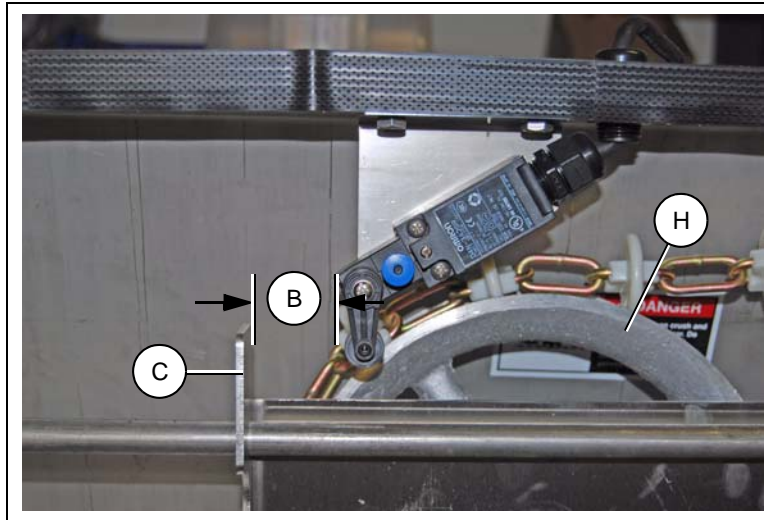
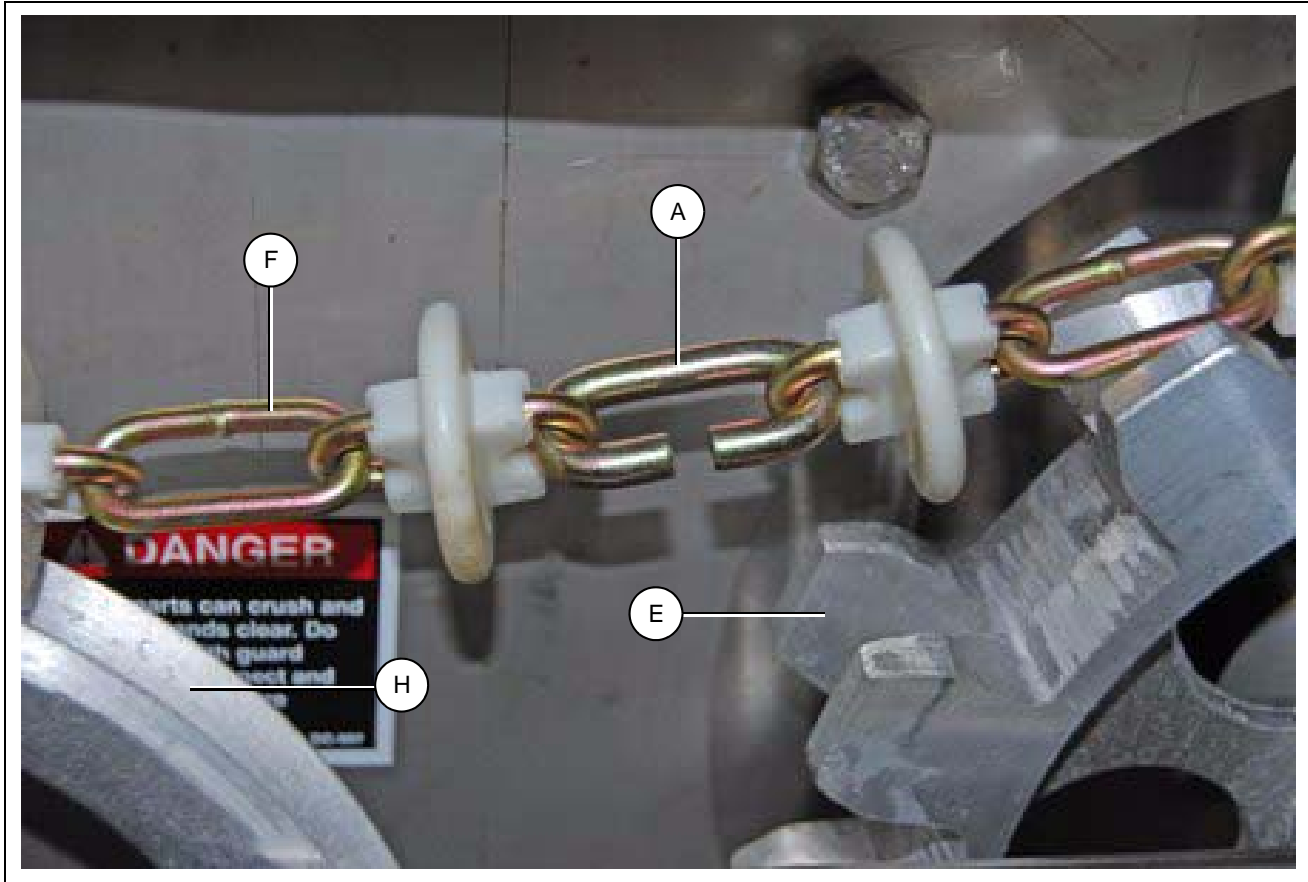

Figure 13H
Figure 13J
1. Unhook both springs inside the drive unit. (See Figure 13H-Figure 13J below and Page 46.)
3. Wrap one end of the chain and disks around the idler wheel and the other around the drive sprocket as shown in Figure 13H-Figure 13J below and Page 46. The fan end of the motor has a shaft extension with flat sides which can be turned with a 1/2" wrench to thread the chain and disks around the drive sprocket. Remove the plastic protector cap to expose the motor shaft extension.
4. Cut the two (2) ends of the chain and disks so that the connection can be made in a convenient location.
5. Connect the ends using a connector link. (See Figure 13H-Figure 13J below and Page 46.)
6. Repeat Steps 1-4 above until the limit switch stays approximately 2" from the left limit switch tab as shown in Figure 13H-Figure 13J on Pages 45 and 46. Increase the time that the system runs each time these steps are repeated until the system has run for at least 10 minutes.